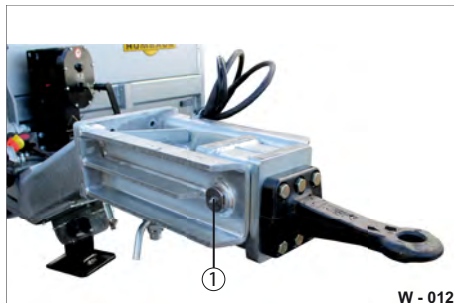

Fig. 15 Lubricating swivel axis
- ▶ Lubricate the swivel axis on the lubrication nipple (Fig. 15/1) with a grease gun until lubricant escapes.